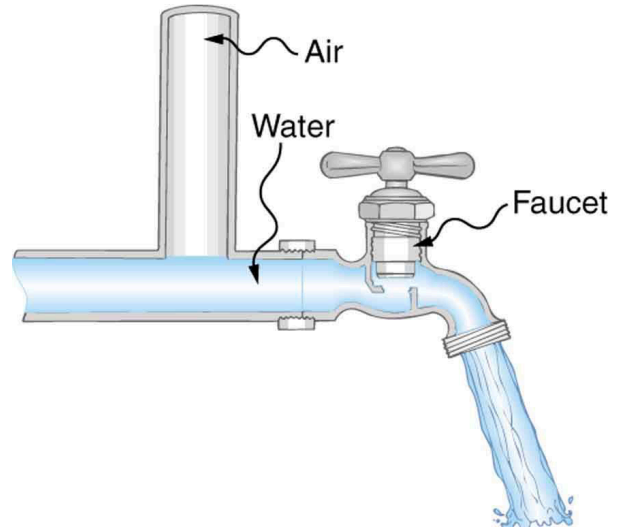

FIGURE 12.27 The vertical tube near the water tap remains full of air and serves a useful purpose.
25. Plumbing usually includes air-filled tubes near water faucets, as shown in Figure 12.27. Explain why they are needed and how they work.